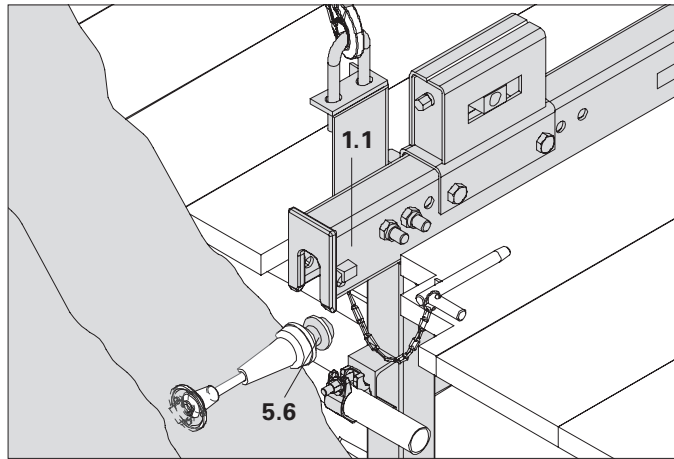

Fig. B1.21
- Have the safety pins (1.5) been completely removed? (Fig. B1.21)
4. Lift platform and pivot over the scaffold mounting rings. (Fig. B1.21)